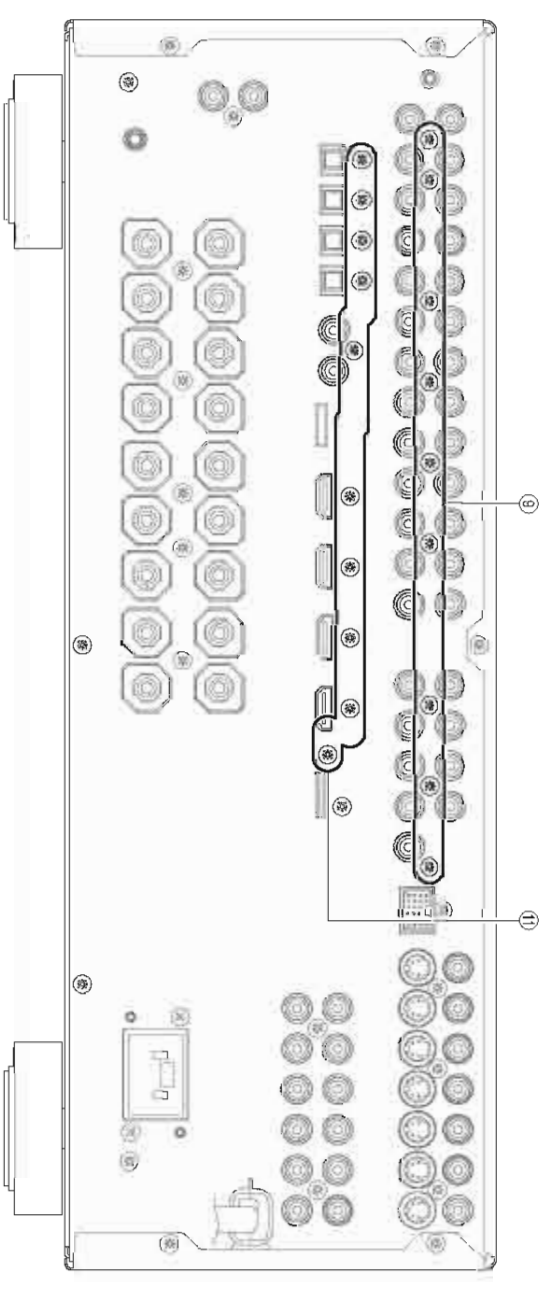

Fig. 3
- Remove 10 screws (RX-V863: U, C, R, T, K, A, G, E, F, L models / HTR-6180: U, F models) / 9 screws (HTR-6180: C model / DSP-AX863SE: B model) (⑩). (Fig. 3)
- ⑩のナジ9本を外します。(Fig. 3)
- Remove 12 screws (RX-V863: U, C models / HTR-6180: U model) / 10 screws (RX-V863: R, T, K, A, G, E, F, L models / HTR-6180: C, F models / DSP-AX863SE: B model) (⑪). (Fig. 3)
- ⑪のナジ10本を外します。(Fig. 3)